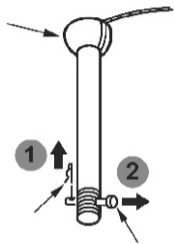

Fig.7
Step 1: Remove the clevis pin and set screw from downrod assembly. (Fig. 7)